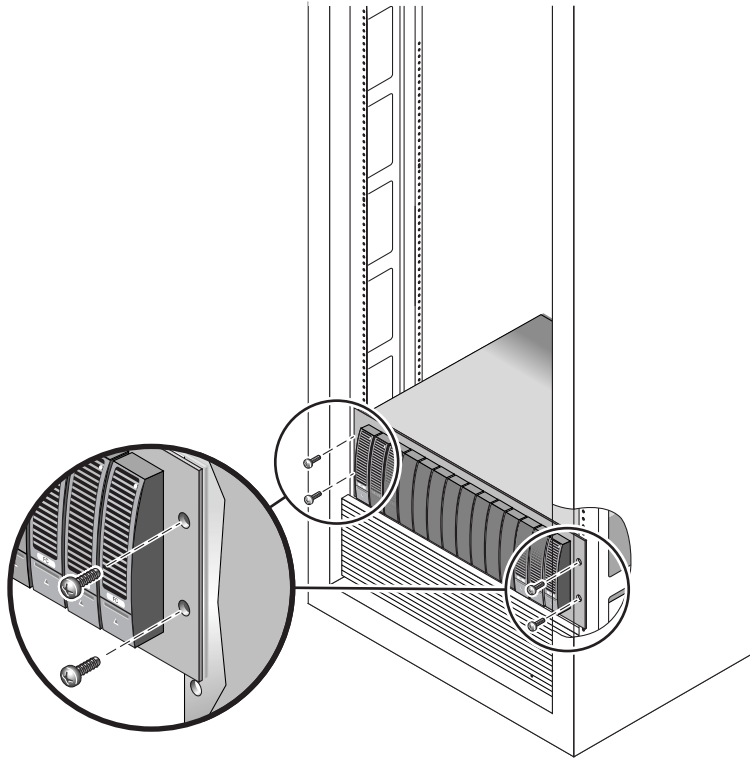

FIGURE 2-11 Securing the Enclosure to the Front of a Sun StorEdge Expansion Cabinet
- For a Sun StorEdge Expansion cabinet, use the No. 2 Phillips screwdriver to insert and tighten four 10-32 screws (two per side) to secure the enclosure to the front of the cabinet (FIGURE 2-11).